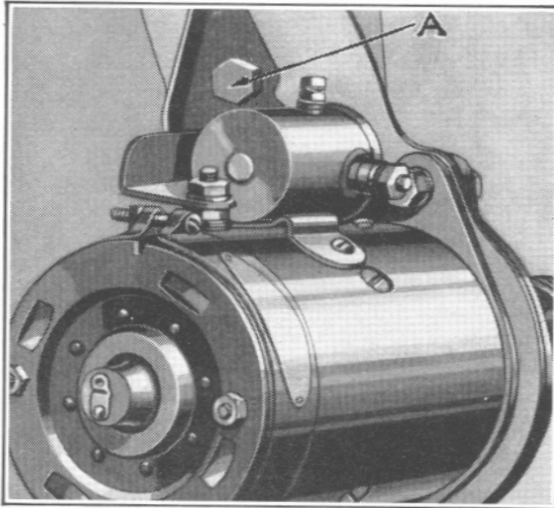

Figure 37
The clutch is drained by removing hex plug (A), Fig. 37, in the front face of the flywheel. First remove one of the cap screws holding the flywheel guard in place underneath the car, and swing guard out of the way. Then rotate the flywheel until the hex plug is in its lowest position. Remove plug and allow the old fluid to drain out. Turn flywheel $1/6$ turn and refill with $1/3$ pint of HUDSONITE CLUTCH COMPOUND. Replace plug and tighten securely. Reassemble flywheel guard.